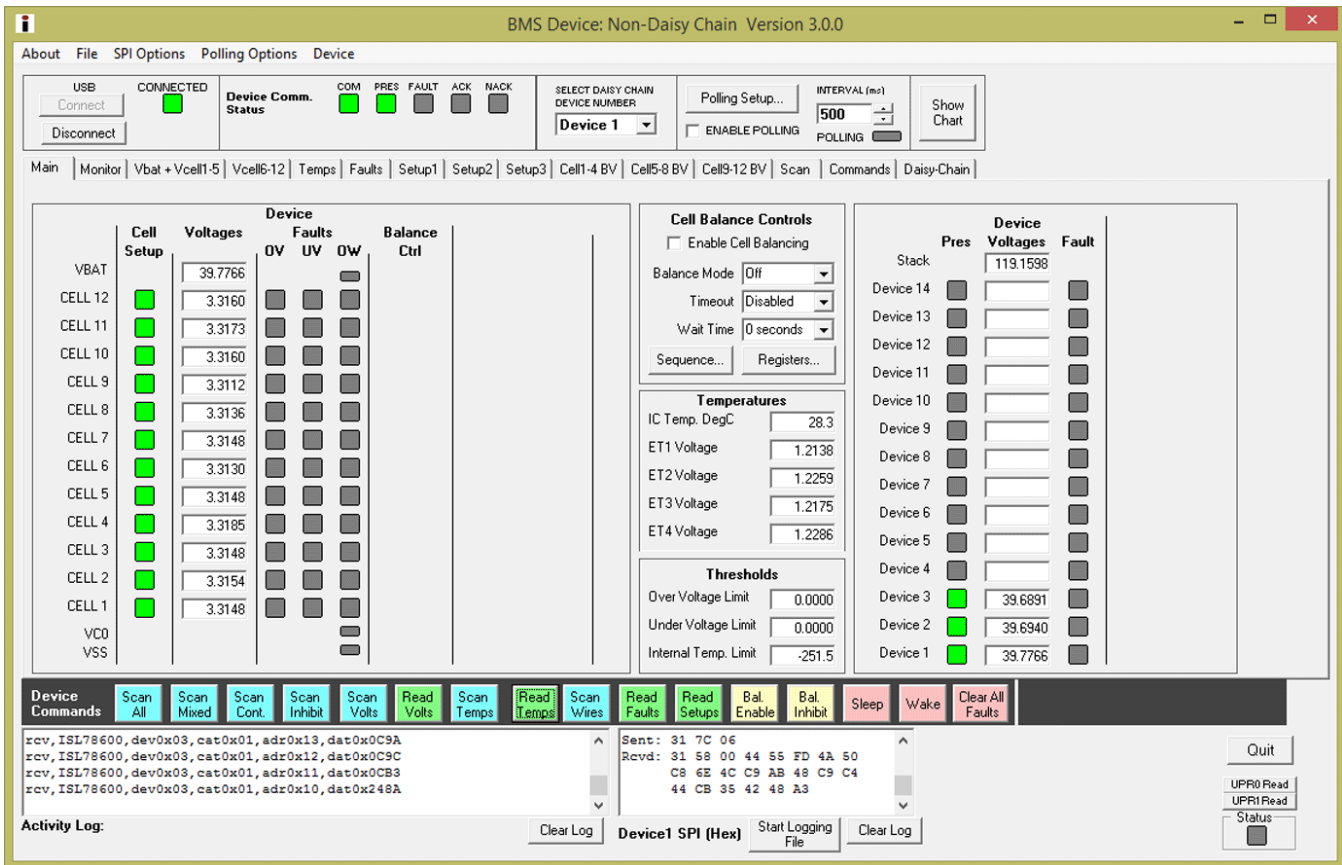

FIGURE 6. MAIN GUI WINDOW - THREE CASCADED DEVICES
6. The "Device Commands" buttons along the bottom of the main tab are commands sent to all boards in the system. So, selecting "Scan Volts" then "Read Volts" causes all boards to read the cell voltages and temperatures and update the ISL78600 register values and the GUI display boxes. (Note: these buttons send separate commands to each board. It does not send a "Scan All" or "Read All" command.) See Figure 6.